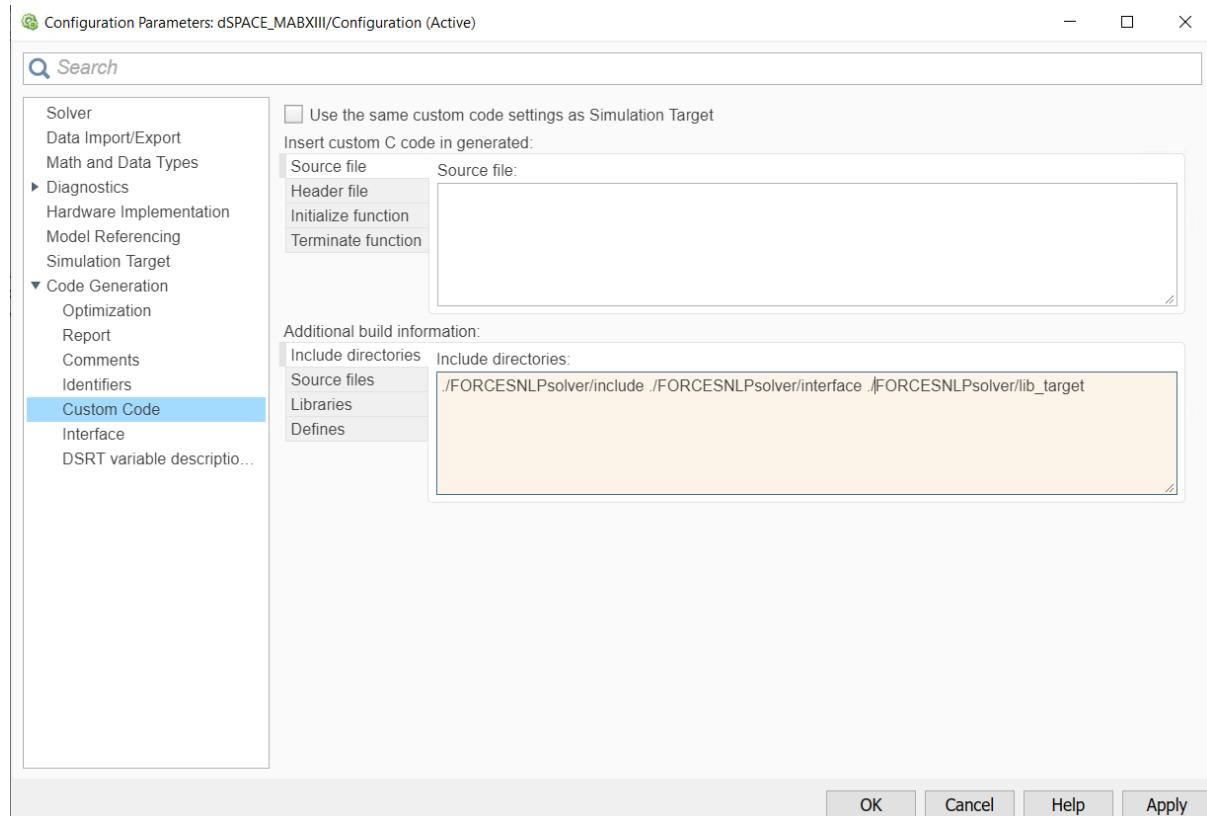

Figure 13.66: Add the directories included for the code generation.
- 10) In the “Code Generation/Custom Code” tab, include the directories (see Figure 13.66):